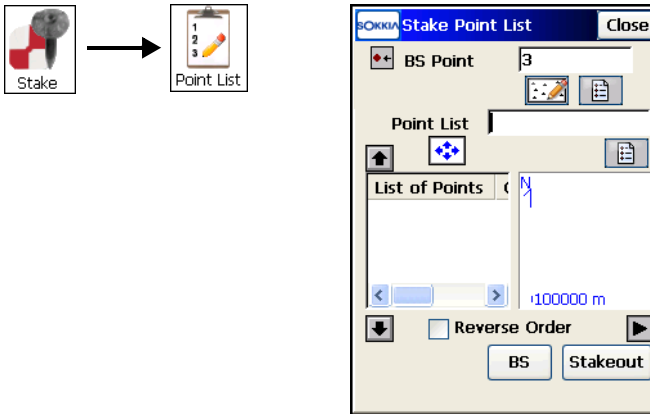

Figure 9-55. DL Stake Point List
1. To stake out elevations at design points in a point list, tap **Stake ▶ Point List**. The *Stake Point List* screen displays (Figure 9-55).